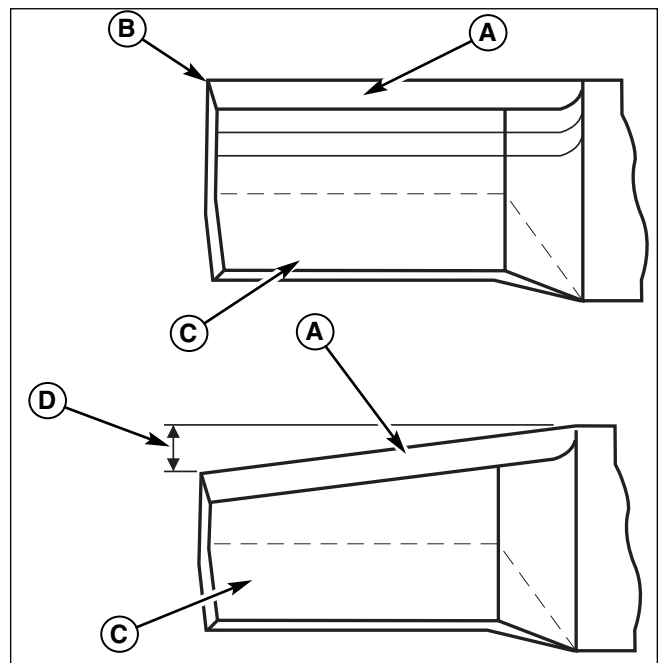

Figure 28. Inspecting the Mower Blade Tips
2. Inspect the mower blade (Figures 28 & 29). **Discard the mower blade if it has any of the below conditions.**
- A.) Has more than .5" (12,7 mm) of the mower blade metal removed from previous sharpening or wear (D, Figure 28).